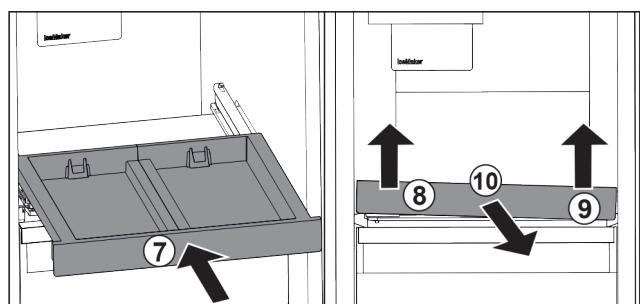

Fig. 98
- Slide in the pull-out board. Fig. 98 (7)
- Lift the pull-out board at the front left. Fig. 98 (8)
- Lift the pull-out board at the front right. Fig. 98 (9)
- Take out the pull-out board to the front. Fig. 98 (10)